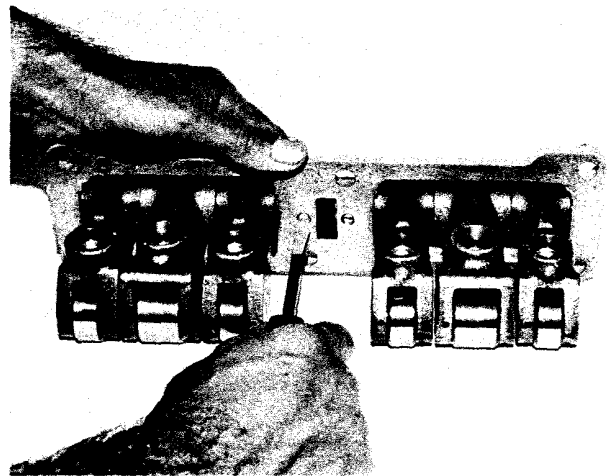

Fig. 4-4, (N10401). Removing shaft lock screws
2. Remove lock screws holding shafts in housing. Fig. 4-4.